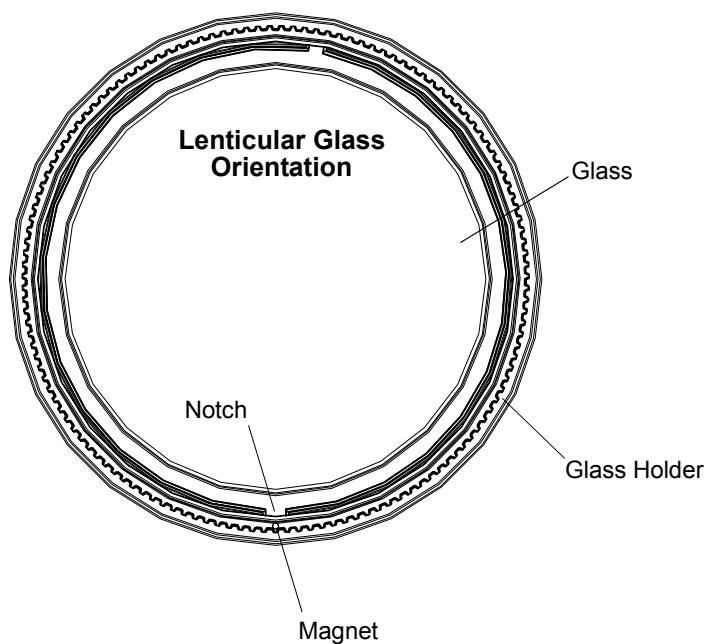

Figure 2-6: Orienting Lenticular Front Glass
- Step 4. **(Lenticular Glass Only)** For lenticular style glass, align center of large notch in glass with glass holder magnet. (Use metal object or screwdriver to assist in locating magnet.) **Figure 2-6.**